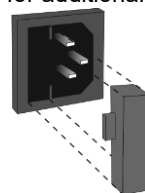

Figure 2. Fuse holder
8.3. **Fuse replacement** (figure 2). Disconnect the power cable from the mains. Disconnect the power cable from the socket on the rear of the unit. Open the fuse holder, located near the socket. Check and replace with a correct fuse, if necessary, see **6.3**.